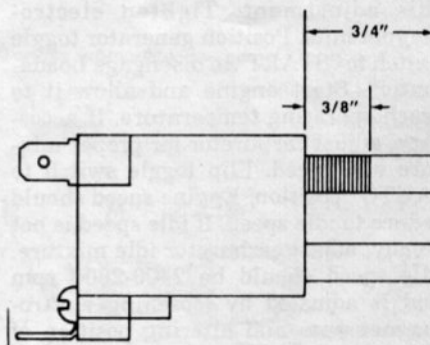
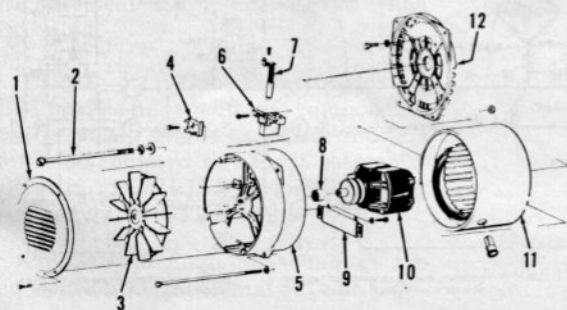

Fig. HL139—Brush length should not be less than $\frac{3}{8}$ inch when measured as shown above. Brush length of a new brush is $\frac{3}{4}$ inch.
Fig. HL138—Exploded view of model 152A27-1A. Other models are similar.
BRUSHES. Brush length and condition should be checked after every 1000 hours of operation. Brushes can be inspected after removing brush head cover (1—Fig. HL138), rotor bolt (2) and fan (3). Note: Do not attempt to hold rotor with fan to remove rotor bolt. Loosen screws retaining brush holder and slide out brush holder. Brushes must be renewed if brush length is shorter than $\frac{3}{8}$ inch as shown in Fig. HL139. Be sure to reinstall a used brush so that brush curvature matches collector ring. During reassembly, fan must be mounted squarely on rotor shaft. Tighten rotor bolt to 120-140 in.-lbs.
DISASSEMBLY AND REASSEMBLY. Refer to Fig. HL138 for an exploded view of generator and to appropriate schematic. Be sure to mark wiring so that it may be correctly connected for reassembly. Wires should be handled carefully to prevent damage to wire, insulation or connections. Generator rotor (10—Fig. HL138) has a taper fit with engine crankshaft and should be removed with a suitable tool.